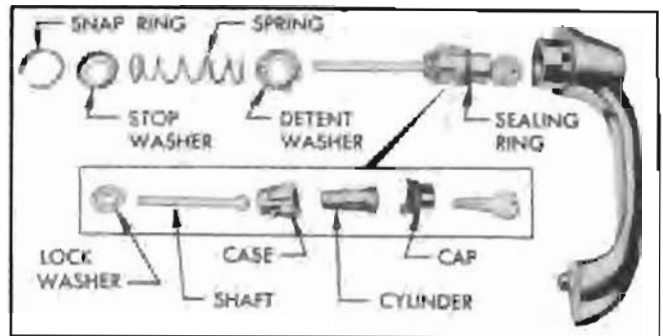

Figure 13-5—Handle and Outside Safety Lock Disassembled
2. Remove retaining snap ring, then remove stop washer, spring, and detent washer from handle; note the relative position of the stop and detent washers to insure correct reinstallation. See figure 13-5.